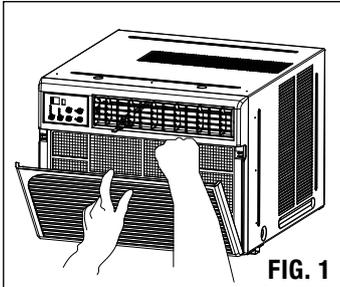

FIG. 1
- Pull down front panel and remove filter. (See FIG. 1.) Lift front upwards and set it aside to be reinstalled later.